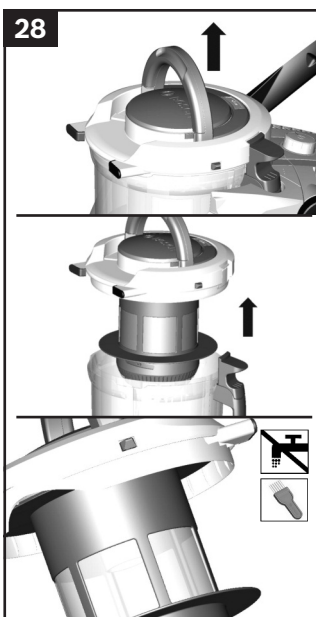

Figure 28
When emptying the dust container, always check how dirty the fluff filter is and clean it as required as detailed in the "Cleaning the fluff filter" instructions. **Figure 28**
- Switch the appliance off, empty the dust container and clean the fluff filter according to the instructions in "Cleaning the fluff filter". **Figure 28**